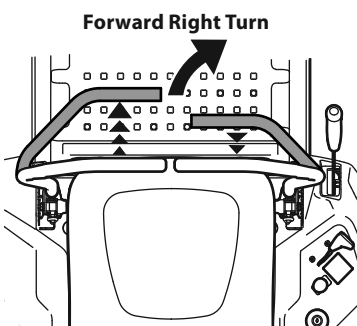

Figure 23
2. To turn to the right, move the right drive control lever rearward of the left lever. See Figure 23.